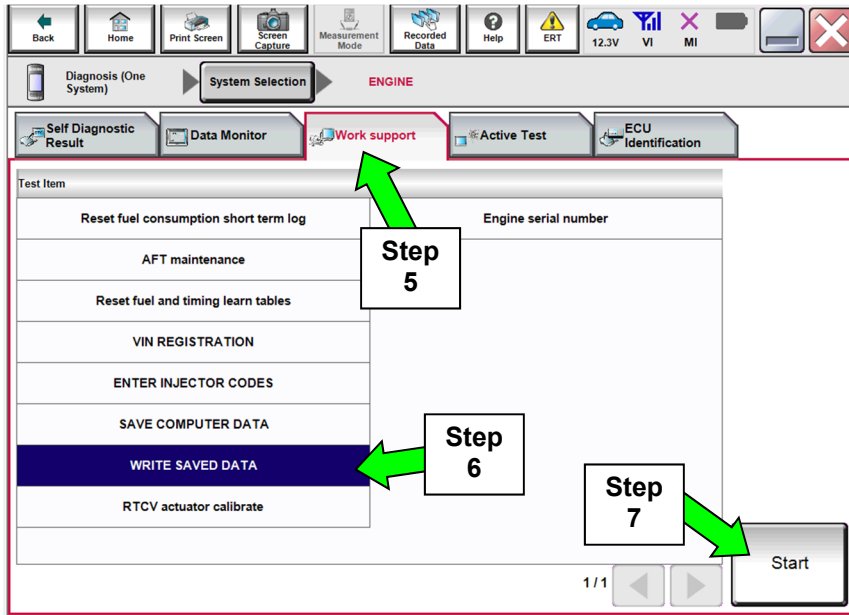

Figure 13
5. Navigate C-III plus to **ENGINE > Work support** (see Figure 13).